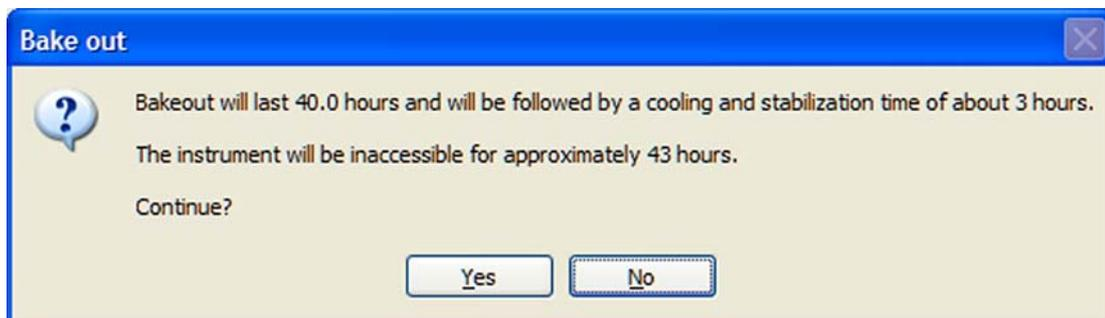

Figure 3-2. Bakeout dialog box
4. Click **Bake out**. A dialog box shows the duration of the baking procedure. See Figure 3-2. Click on **Yes** to confirm the message.